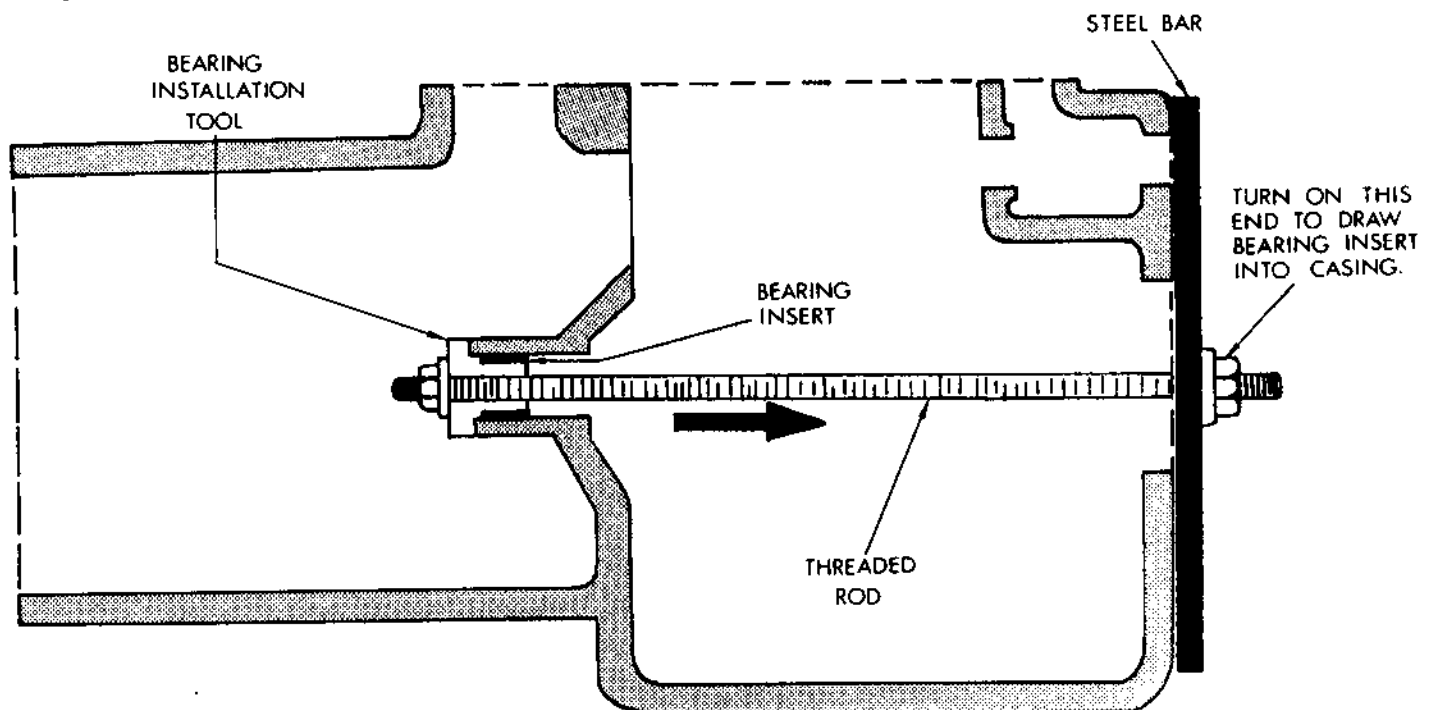

Figure 66 — Bearing Insert Installation
5. Turning nut on bar end will draw bearing insert into casing until the positive stop on tool is against casing. See Figure 66.